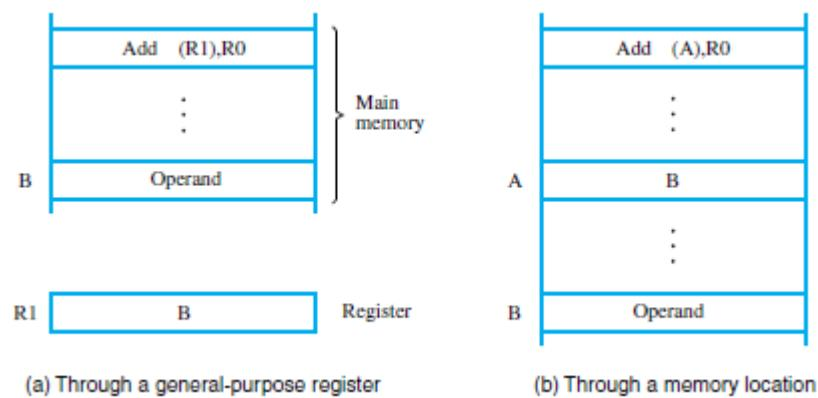

Figure 2.6 Indirect addressing
Indirect mode through general purpose register : **Add (R1),R0** is executed as shown in the above figure 2.6(a). The processor uses the value of B present in register R1. The contents of location B are read. Now this content is added to content of register R0.
Indirect mode through a memory location : **Add (A),R0** is executed as shown in figure 2.6 (b). The processor reads the contents of memory location A. Second read operation is requested using the value B as an address to read the operand.